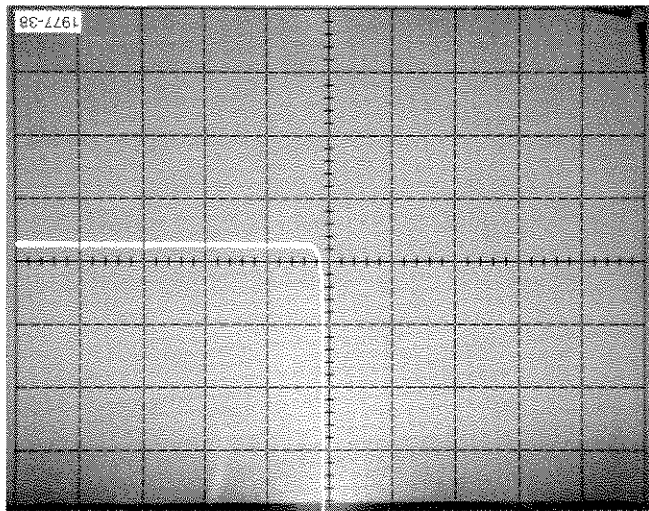

Fig. E-2. Input offset voltage.
- c. Check that the right edge of the horizontal trace is  $\leq 2.5$  divisions vertically from the center reference; i.e.,  $\pm 5$  mV (see Fig. E-2).